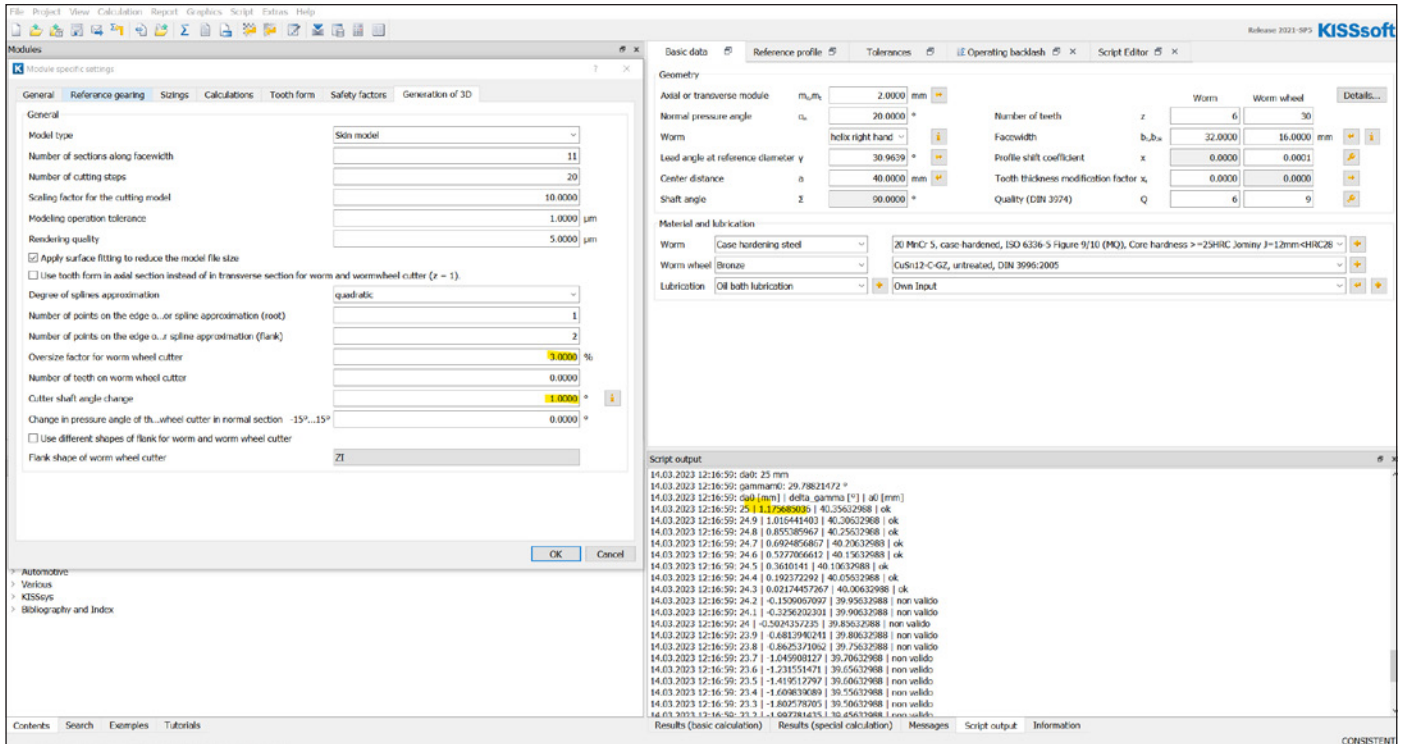

Figure 15—Design of the system worm and worm wheel with oversized hobber (Ref. 11).
- design of the worm gearbox (worm and worm wheel) providing for an oversize of the crown cutter (Figure 15);